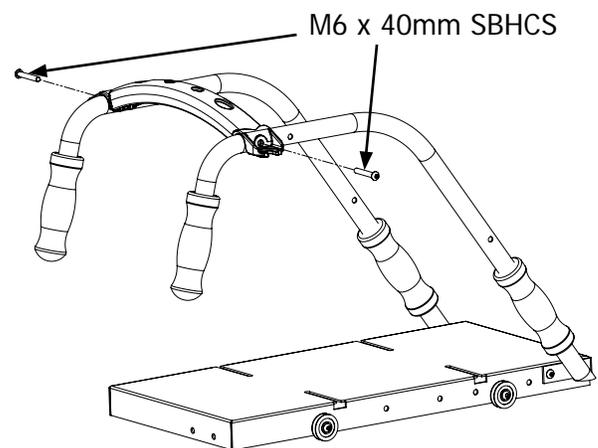

Fig.1-4
- 3 While holding the M6 Hex Nuts in place, insert (2) M6 x 40mm SBHCS into the holes on the outside of the Handle Brace and secure them into the M6 Hex Nuts with the 4mm Allen Wrench (see Fig.1-4).